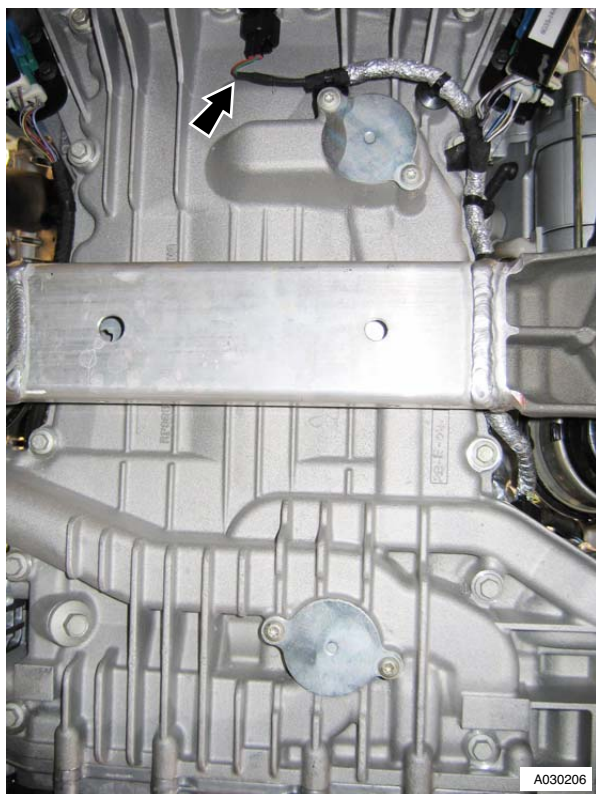

Figure 7
15. Disconnect multiplug from crankshaft timing sensor (see Figure 7).
34. Note that piston grade number on crown and thick flange on connecting rod faces to front of engine on LH bank (B) (see Figure 7).